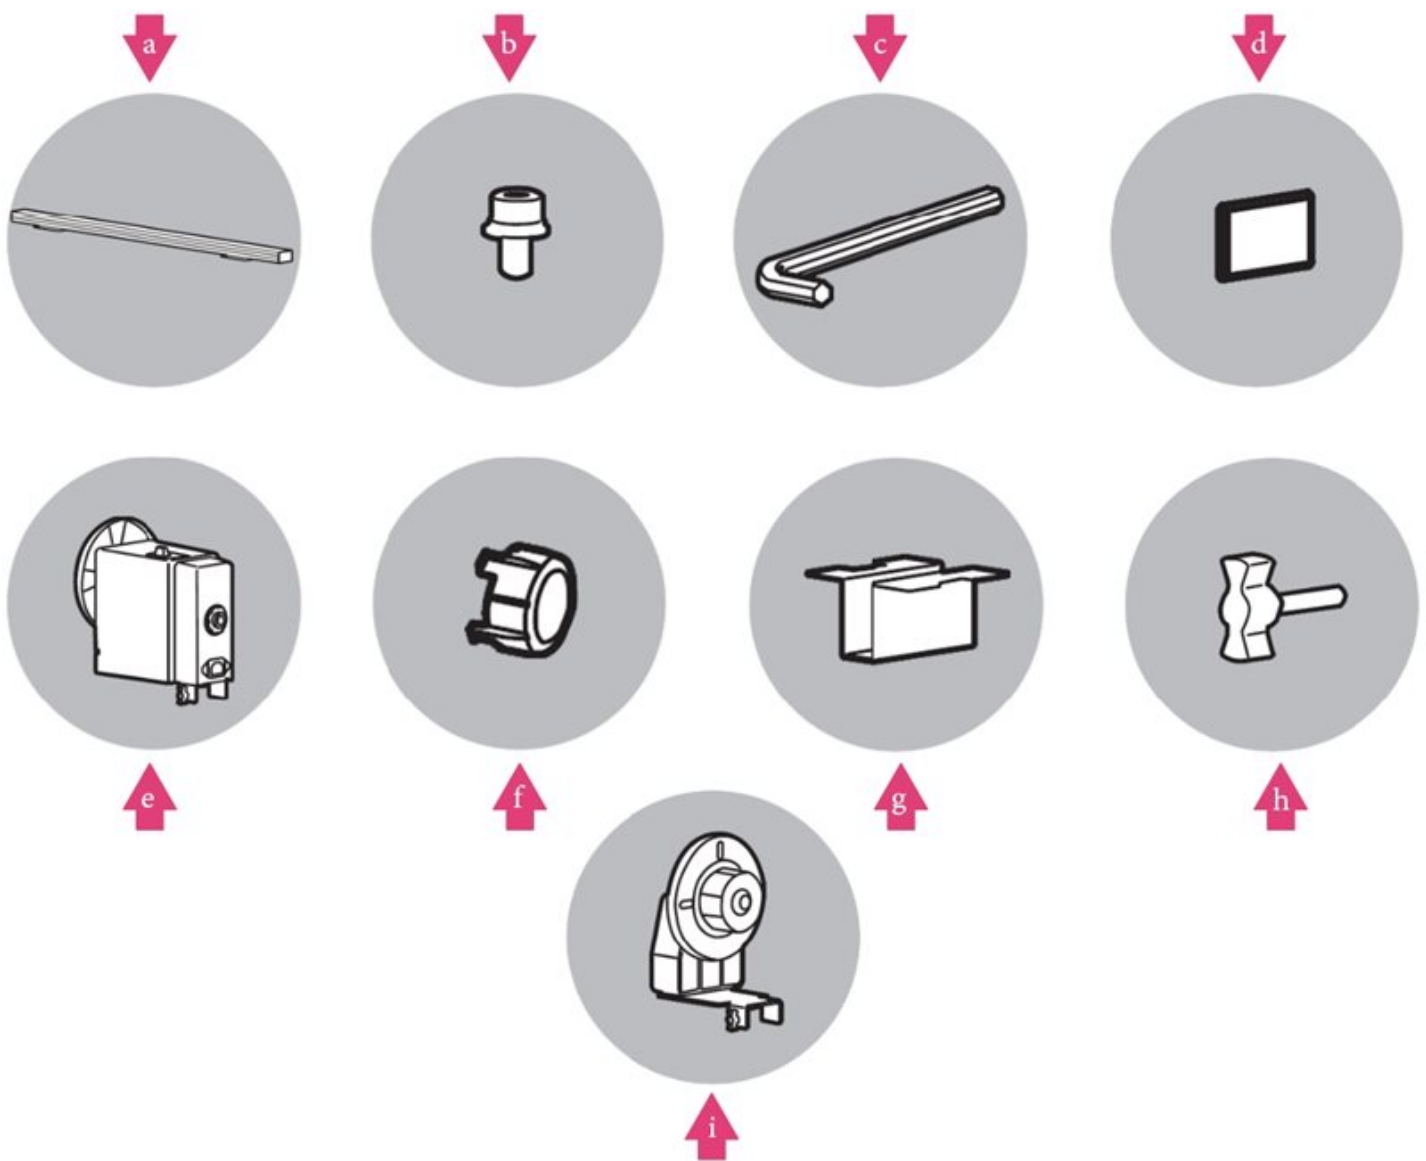

Figure 5
5. Open the take-up unit box and confirm that it contains the following. See Figure 5.